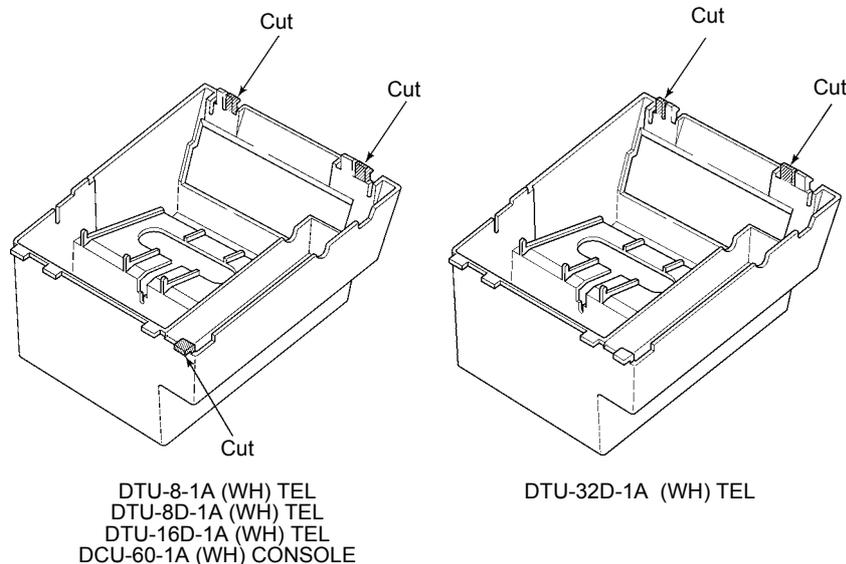

Figure 7-70 Removing the Tabs from the WMU-UA Unit
3. Remove the tabs from the WMU-UA Unit as shown in *Figure 7-70 Removing the Tabs from the WMU-UA Unit*. (Tabs removed depends on the Multiline Terminal type.)